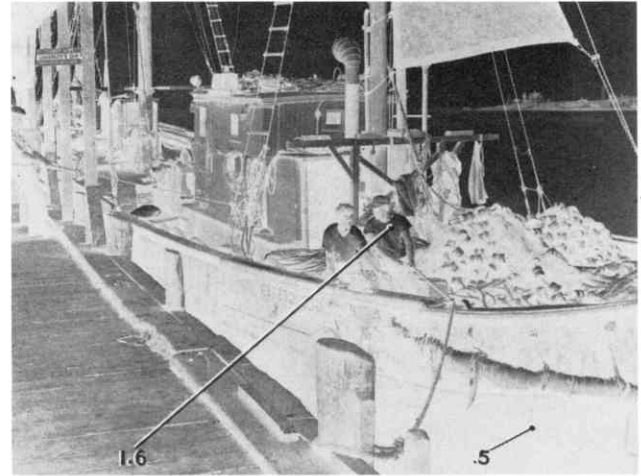

Fig. 5
a. Place negative on viewing plate of Analyzer with emulsion side up and measure the minimum and maximum density areas of the negative. (See Figure 5.) Check each reading on several similar portions; visual judgment is often unreliable. Properly exposed and developed negatives should have a minimum density about 0.2 to 0.3 greater than that of unexposed margin of negative.